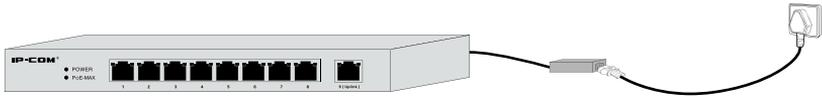

**Figure 3-2** Connect standard PD devices
**Step 2:** Use other Ethernet cables to connect downstream network devices to the Downlink ports. PoE-capable ports can access PDs such as an AP, an IP phone, an IP camera, shown as Figure 3-2.